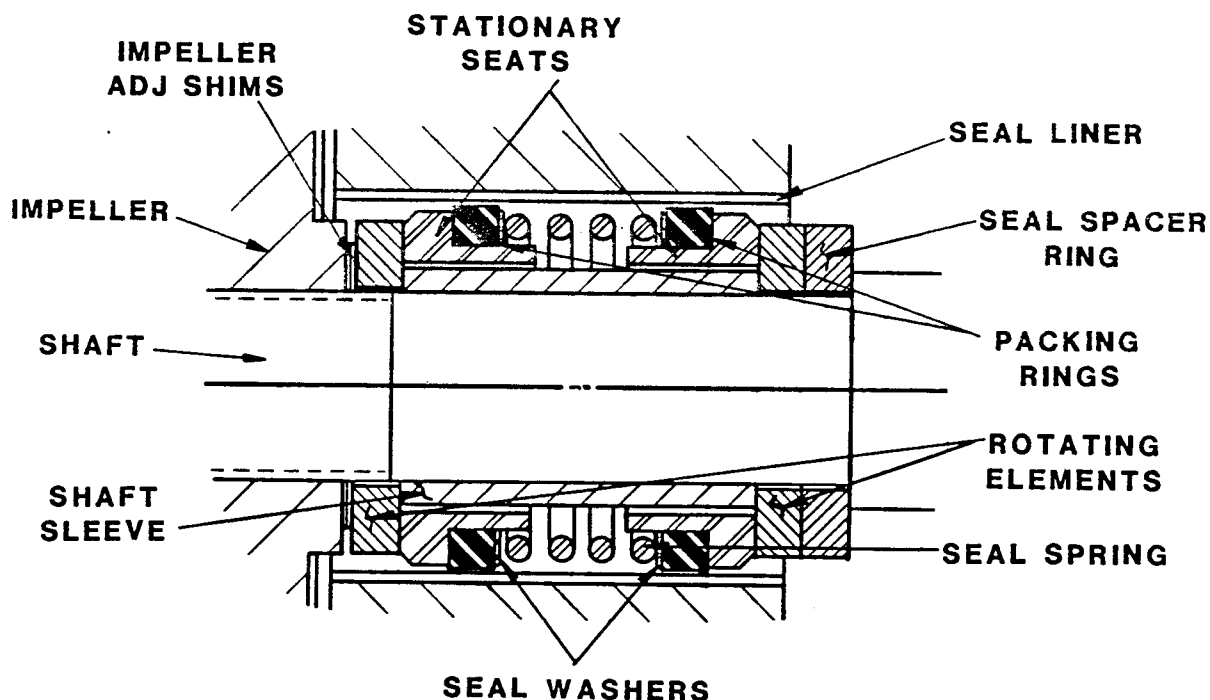

Figure 3. GS1000 Seal Assembly
To ease installation of the seal, lubricate the packing rings and seal liner (19) with water or a very **small** amount of oil, and apply a drop of light lubricating oil on the finished faces. Assemble the seal as follows, (see Figure 3).